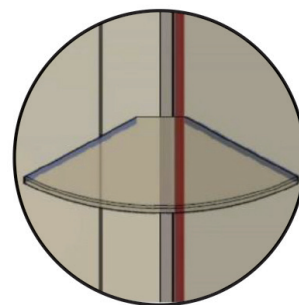

FIG 34.
- After 24-48 hours remove stabiliser blocks (FIG 34).